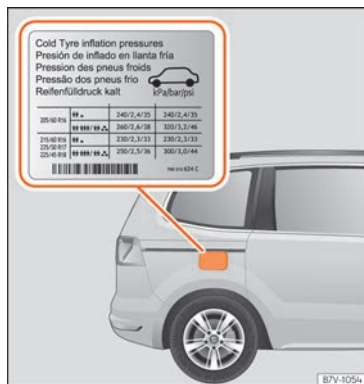

**Fig. 294** Position of tyre pressure specification plate
- Adjust tyre pressure to the load being carried by the vehicle » **Fig. 294**.
» **Fig. 294** is either on the driver door strut or inside the fuel tank flap.
» **Fig. 294**.
- The driver is responsible for ensuring that all of the vehicle tyres are correctly inflated to the right pressure. The recommended tyre pressure is indicated on the label » **Fig. 294**.
- When the tyres are cold, tyre pressure should be that indicated on the label » **Fig. 294**.